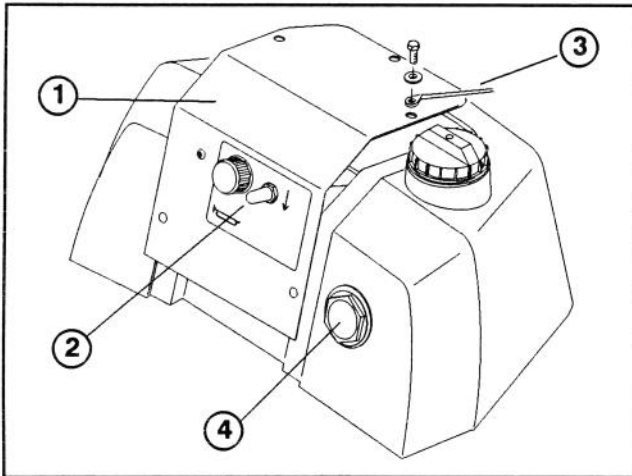

Figure 4
16. Before reattaching cover plate, test leak detector switch (Fig. 4) with main tractor key switch in "on/run" position. Buzzer should sound with toggle switch held in the down position for 1 second.
18. Assemble cover plate to auxiliary tank with fasteners previously remove and secure cap tether (Fig. 4) under nearest hole to fill neck.
19. Fill auxiliary tank to top of sight glass (Fig. 4).